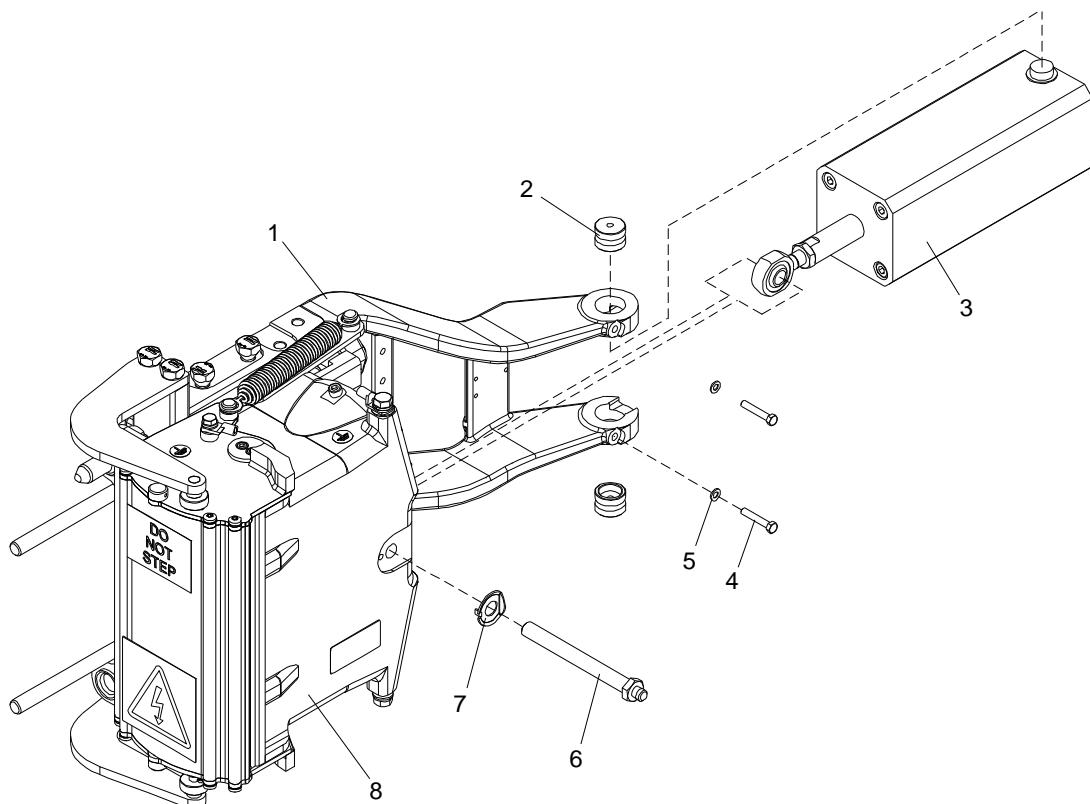

Figure 7-25: Replacement of Operating Cylinder
1. Take notes how the pneumatic connections are connected to the operating cylinder (3) and loosen the connections.
2. Bend down the corner of the lock washer (7). See Figure 7-25.
3. Loosen the electrical coupler (8) from the operating cylinder (3) by removing connection screw (6).
4. Remove the screws (4), washers (5) and sleeves (2) and remove the operating cylinder (3) from the electric coupler actuator (1).
2. Fit the operating cylinder (3) and sleeves (2) to the electrical coupler actuator (1) and mount the washers (5) and screws (4). See Figure 7-25.
3. Fit the operating cylinder (3) to the electrical coupler (8) and mount the lock washer (7) and connection screw (6). Bend corner of the lock washer (7) up against the connection screw (6).
4. Connect pneumatic connections to the operating cylinder (3) according to previous notes.